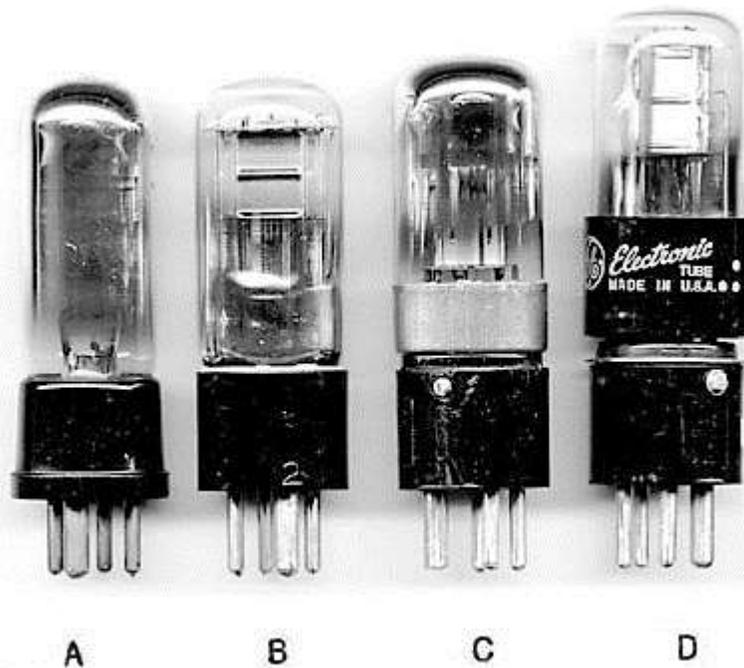

Fig. 5. From left: WD-11 tube; re-based 864; 1LE3 in its adapter; 1A5 in its adapter.
Fig. 5 shows (A) a WD-11 tube, (B) a re-based 864, (C) a 1LE3 in its adapter, and (D) a 1A5 in its adapter. The superficial resemblance of the substitutes to the WD-11 is obvious. Details of the adapter construction are also visible.